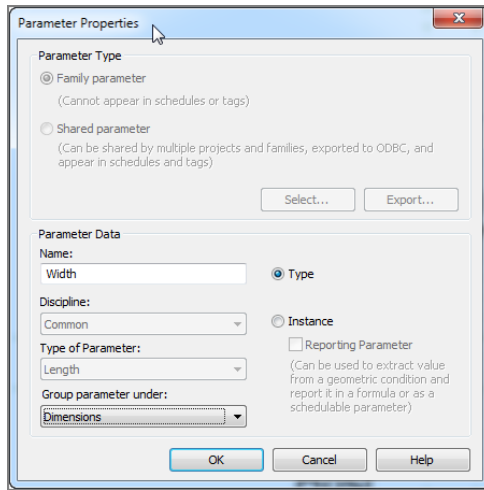

FIGURE 17.7: Configuring the parameter
3. In the Parameter Properties dialog box, under Parameter Data (as shown in Figure 17.7), type **Width** for Name.